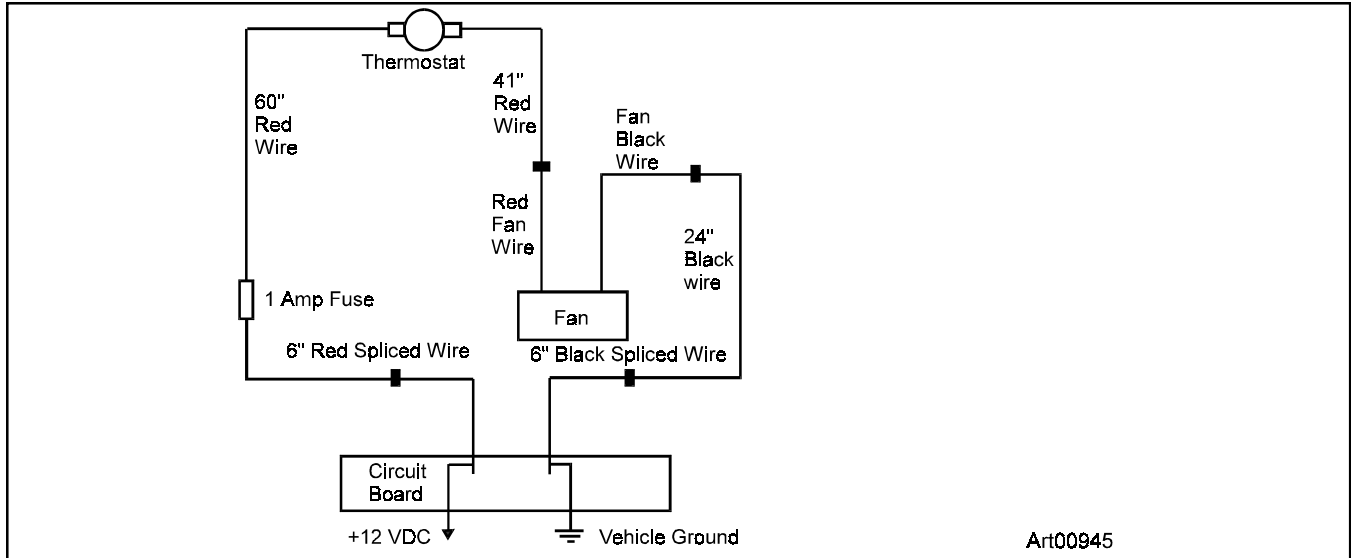

**Figure 6**
2. Insert a #8 x 3/8" screw through the bottom hole of the thermostat and into the lowest point of the left condenser fin slot. Tighten the screw 1 or 2 turns to hold the thermostat in place. See Figure 6.
3. Insert a #8 x 3/8" screw through the top hole of the thermostat and into the condenser fin slot. See Figure 6.